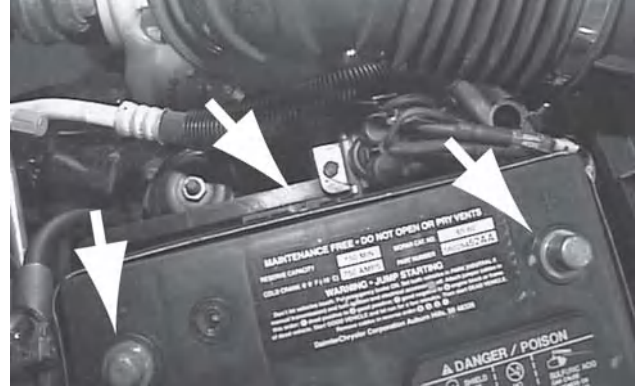

Fig. 21a
- Reinstall the driver side battery into the tray and secure with the battery clamp. (see figure 21a)